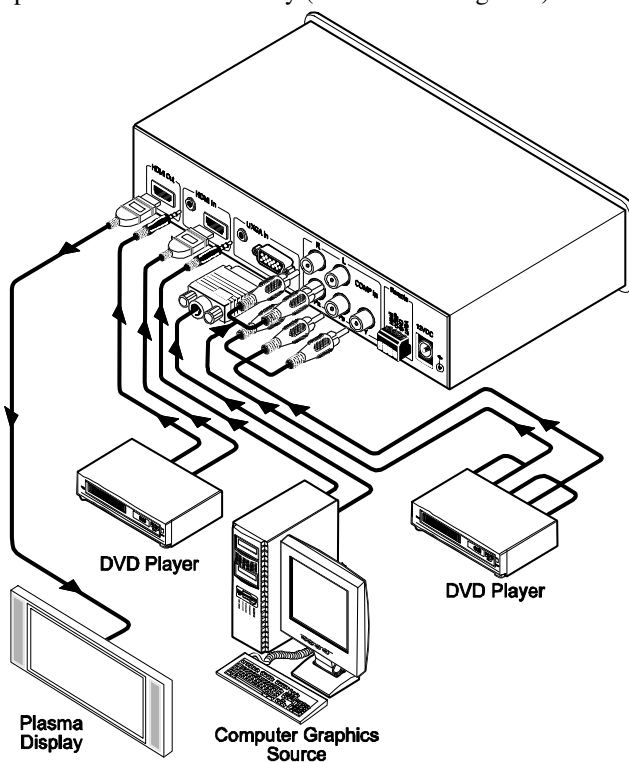

Figure 2: Connecting the CSC-650 Component / UXGA HDMI Scaler
To connect¹ your **CSC-650** as the example in Figure 2 illustrates:
5. Connect the 12V DC power adapter to the power socket and connect the adapter to the mains electricity (not shown in Figure 2).